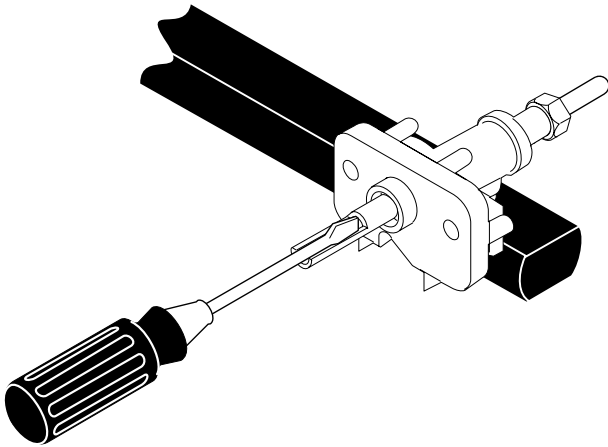

Figure 12
- Insert a thin-bladed screwdriver into the hollow valve stem and engage the slotted screw inside. Flame size can be increased or decreased with the turn of screw. Turn counterclockwise to increase flame size. Turn clockwise to decrease flame size (Figure 12). Adjust flame until you can quickly turn knob from LITE to lowest position without extinguishing the flame. Flame should be as small as possible without extinguishing.